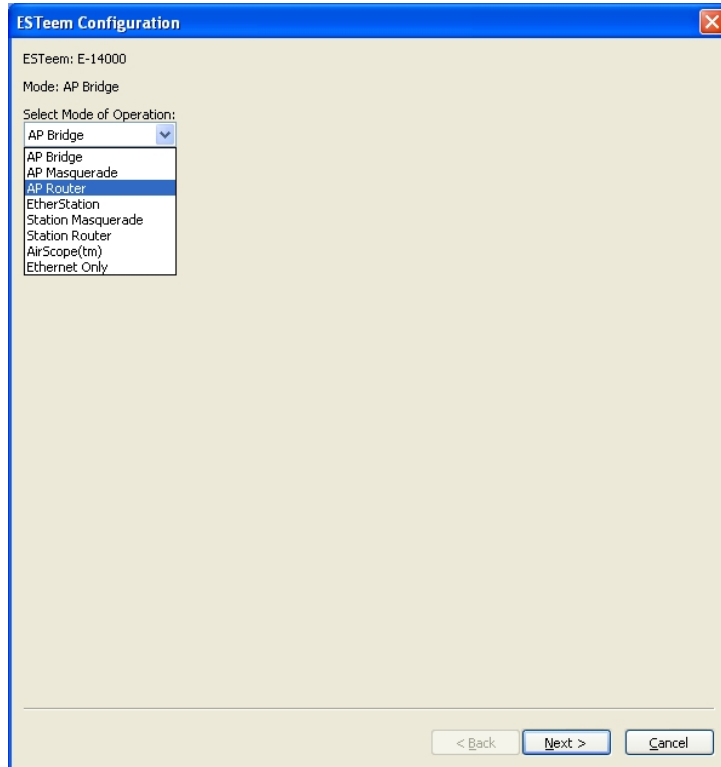

Figure 21: AP Router Configuration
4. Change the Mode of Operation from AP Bridge to AP Router (or Masquerade if desired) and press the Next button at the bottom of the window (Figure 21).